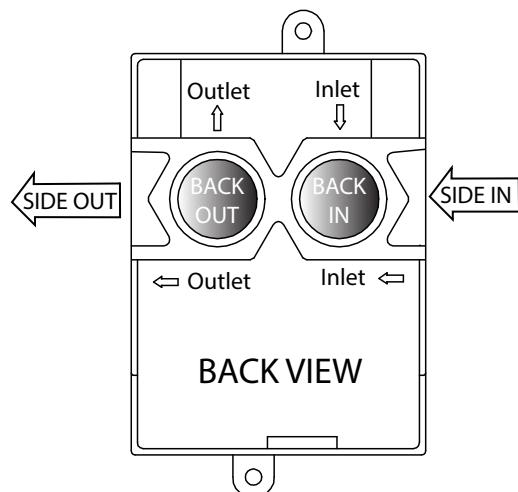
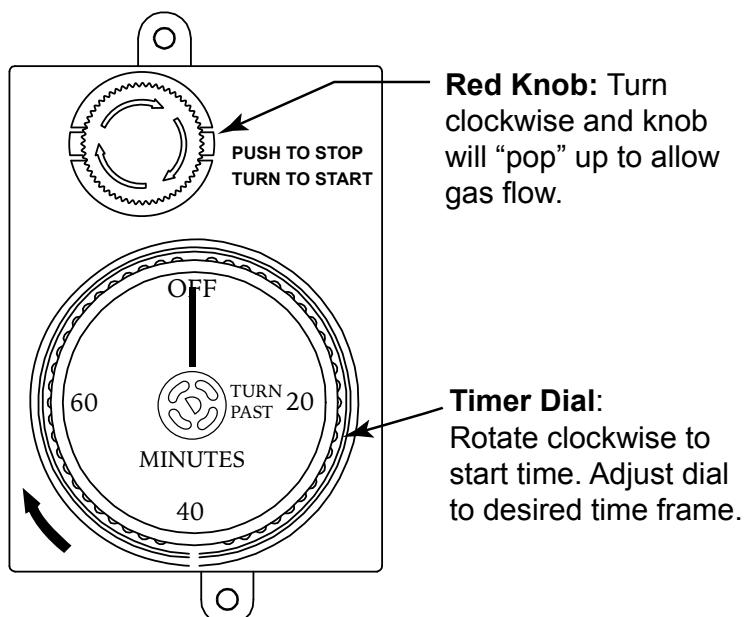
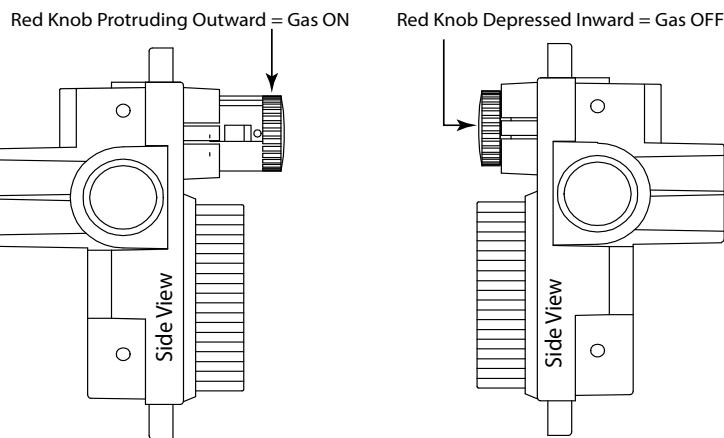

Fig. 2 Inlet and outlet connections.
Fig. 4 E-STOP1-0H operation.
Fig. 5 Gas Timer red knob positions
The ESTOP is recommended to be installed in an up-right position as shown in Fig 3, view "D" or Fig. 4. It has two (2) inlet and two (2) outlet gas connections. The diagrams below provide possible ways to plumb the timer (See Fig. 3). Two (2) $\frac{1}{2}$ " NPT plugs are provided with the timer. Plug the inlet and outlet connections not being used for the application. Connect gas supply to the inlet with the arrow \rightarrow pointing into the valve. Connect outlet side to the gas appliance (See Figs. 2 & 3 for details).
TO TURN OFF: Let timer expire or simply press red knob inward until it stops. The red knob will lock down with a "click" and stop gas flow. See Fig. 4 and Fig. 5 on following page.